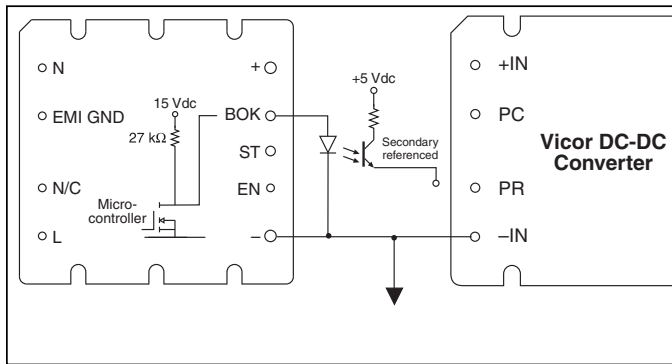

Figure 11 — Bus OK (BOK) isolated power status indicator
**Bus-OK (BOK) Pin.** (see Fig. 11) The Bus-OK pin is intended to provide early-warning power fail information and is also referenced to the negative output pin.